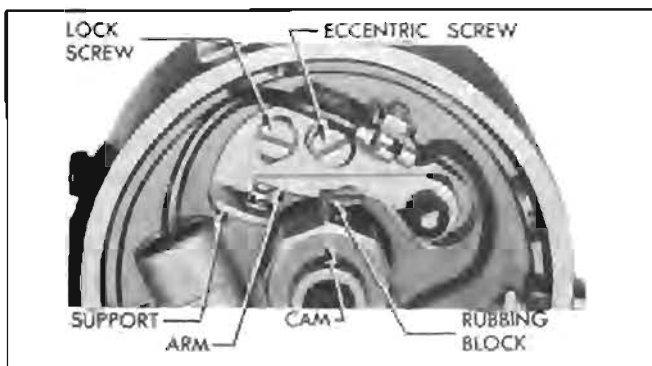

Figure 10-64—Contact Point Adjustment
6. Crank engine with starter switch and note indicator reading. Indicator reading (point opening) should not be less than .0125" nor more than .0175". If reading is beyond either limit, slightly loosen contact support lock screw and turn eccentric screw to open or close point as required, then tighten support lock screw. See figure 10-64. NOTE: *Since point opening decreases as rubbing block wears, always set new points as close to the high limit as possible.*
Use a clean, flat feeler gauge .015" thick. With rubbing block on highest point of cam lobe adjust point opening (fig. 10-64) until feeler gauge goes between contact points with a very light drag. Use care to hold gauge exactly in line with opening to get an accurate measurement.